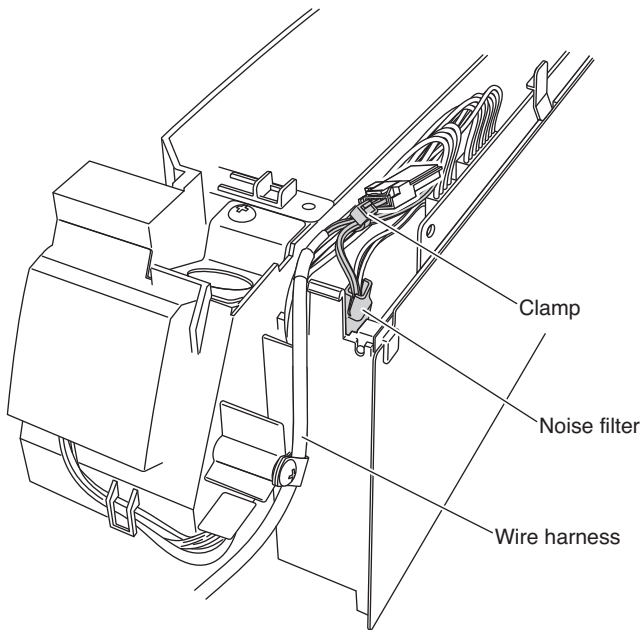

Fig. 7
(9) Insert the noise filter into the electrical box, then fasten the noise filter Connector B wire and the wire harness of the wired remote controller as shown in the figure. (Fig. 7)